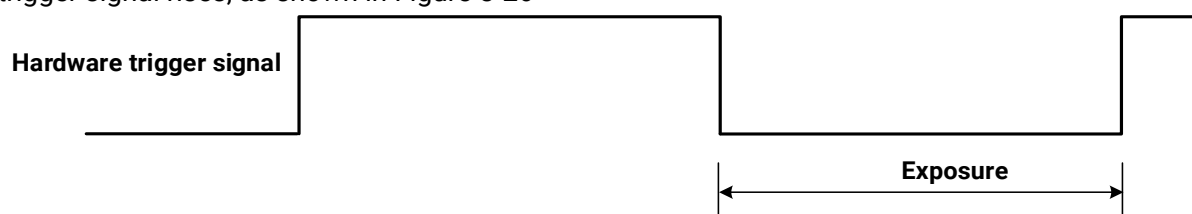

Figure 8-26 The sequence diagram in falling edge trigger of TriggerWidth exposure mode
- If falling edge triggering is enabled, exposure starts when the trigger signal falls and continue until the trigger signal rises, as shown in Figure 8-26